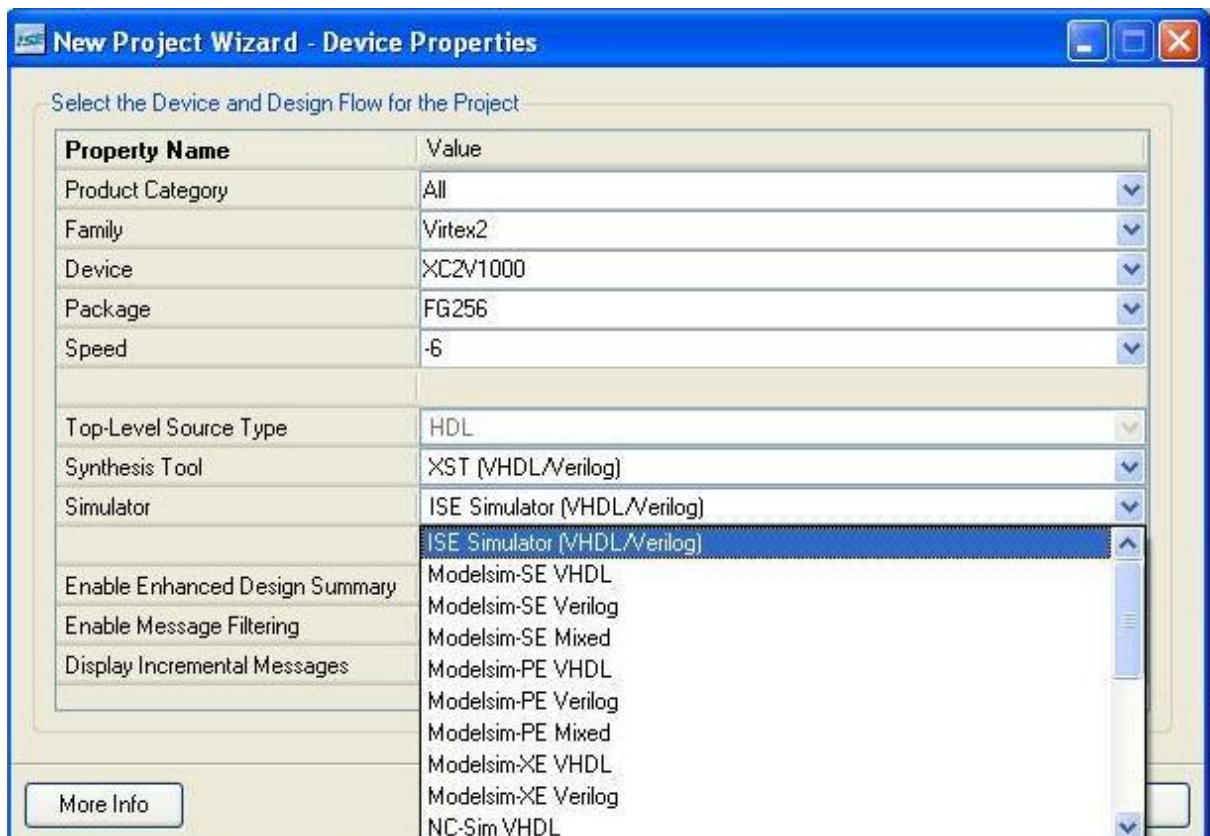

Fig 3.4: Choosing Device Properties
2. Select **Next** to complete this step. Later, the device and design flow of the project is chosen which can be viewed from Fig 3.4.